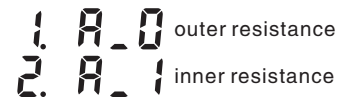

Figure 4-1: select sampling resistance
- (1) Select **9.9 1.7** (R_IN) in main menu.
- (2) As figure 4-1, screen displays the selection menu. (The default is inner resistance)
- (3) Press to select the suitable R resistance and return to the main menu.